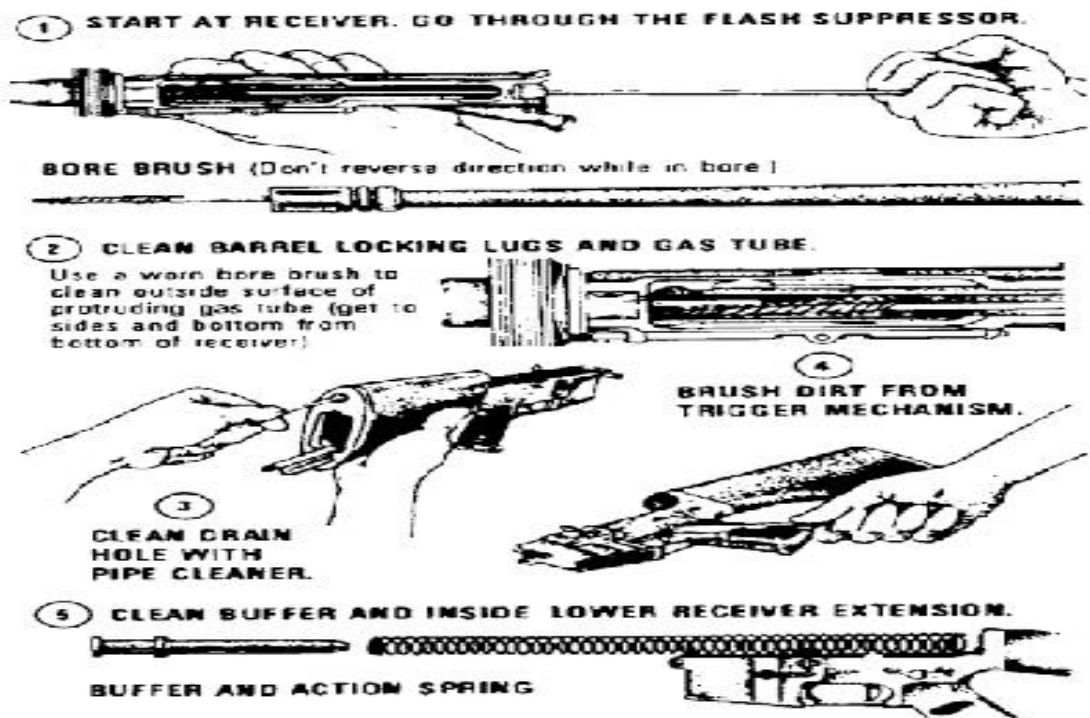

Figure E-21. Cleaning the receivers.
a. Clean the upper and lower receiver group using CLP to remove powder fouling in the upper receiver (figure E-21).